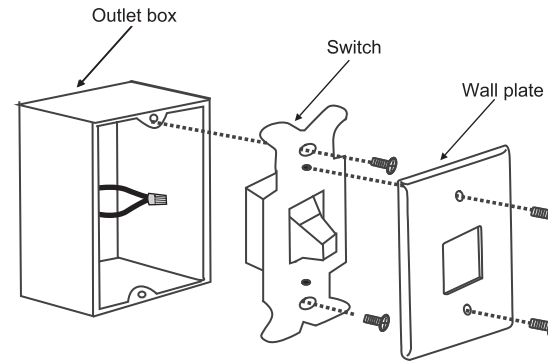

Fig. 23
**Step 1.** Remove the existing wall plate and the old switch from the wall outlet box. Wire nut the BLACK leads (hot) together and push back inside the outlet box. (**Fig. 23**)